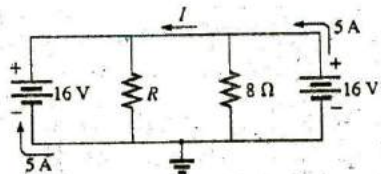

FIG. 6.108
39. Assuming identical supplies, determine the current I and resistance R for the parallel network in Fig. 6.108.